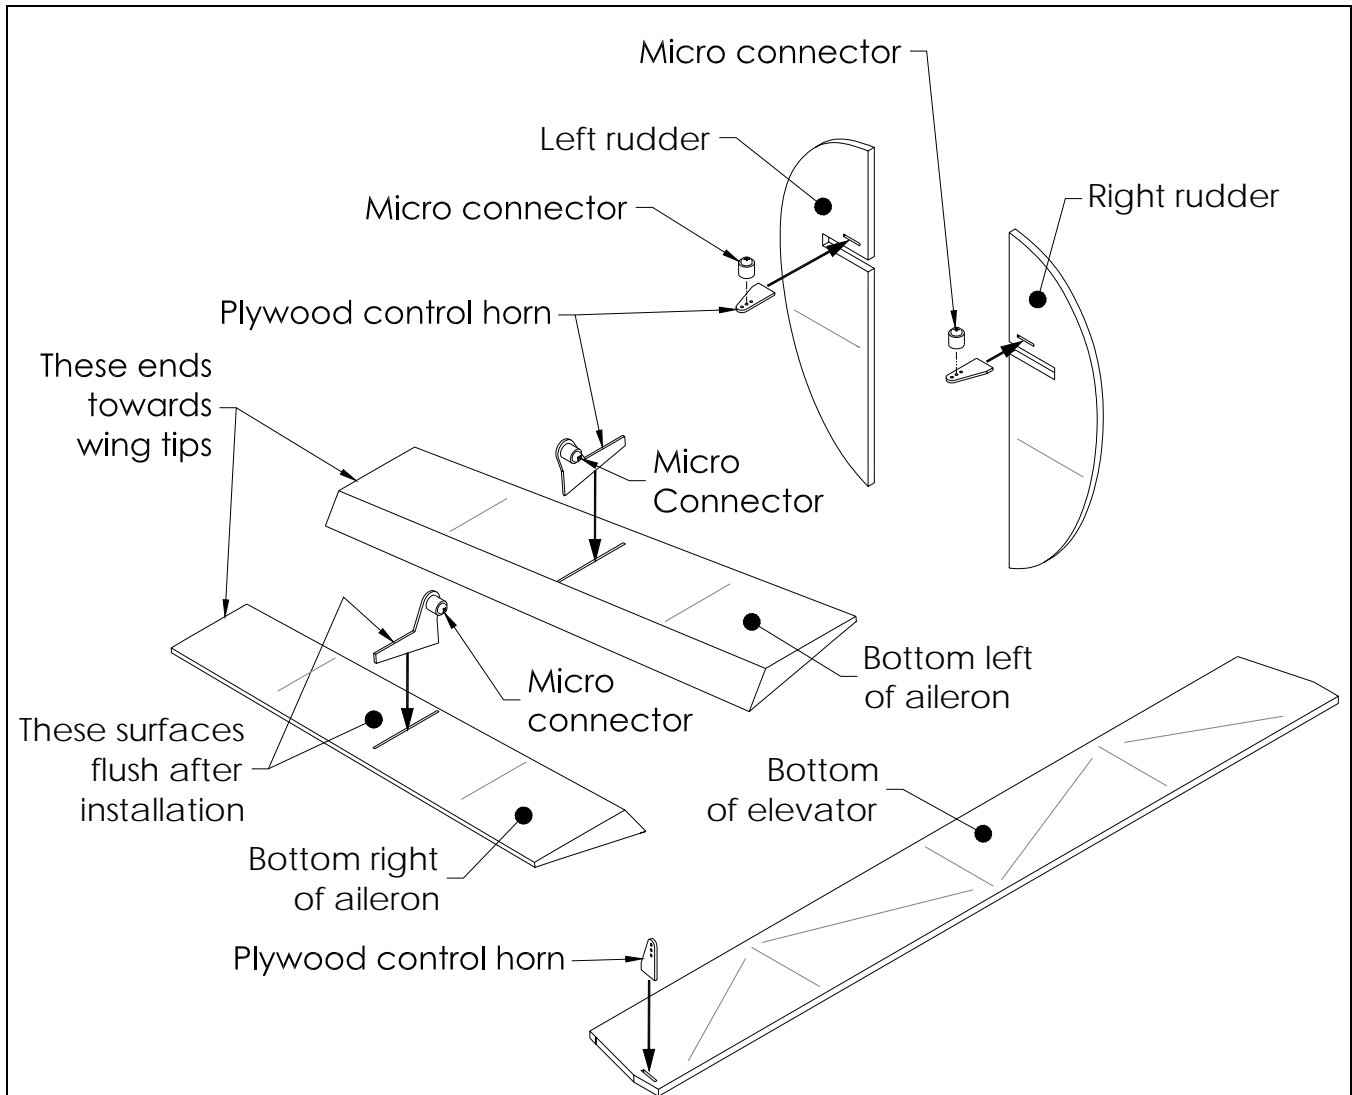

Figure 28
- ❑ Glue the plywood control horns in the control surfaces as shown in Figure 28 noting orientation. The plywood control horns for the elevator and each rudder are identical and should be inserted into the slot until they are flush with the opposite side of the control surface.
- ❑ Install the Micro Connectors in the plywood control horns shown in Figure 28.